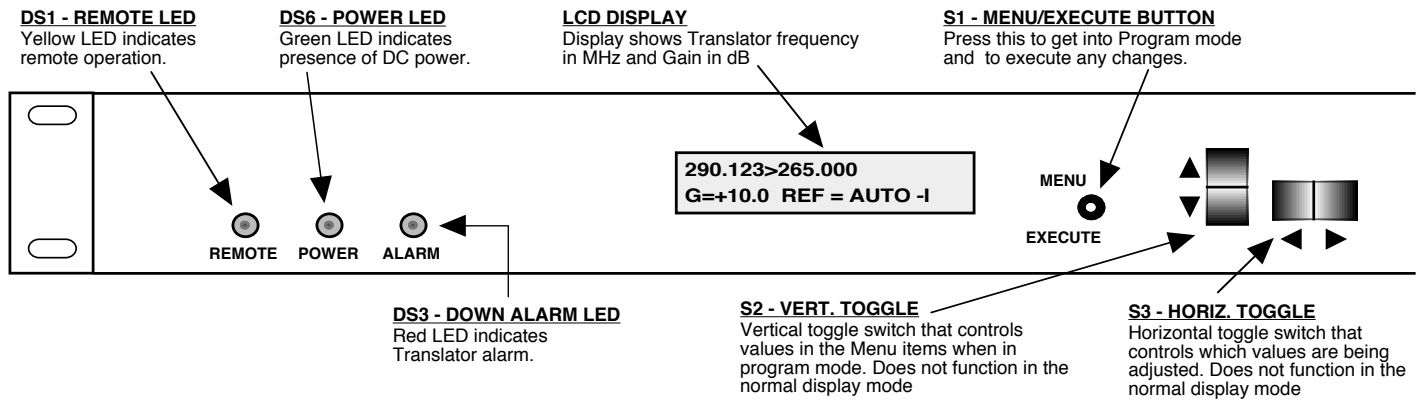

FIGURE 2.3 2083-0303 Front Panel Controls and Indicators
5. Be sure DS6 (green, DC Power) is on and DS (red, Alarm) is off (Figure 2.3).
Alarm indications appear on the LEDs (See figure 2.3).